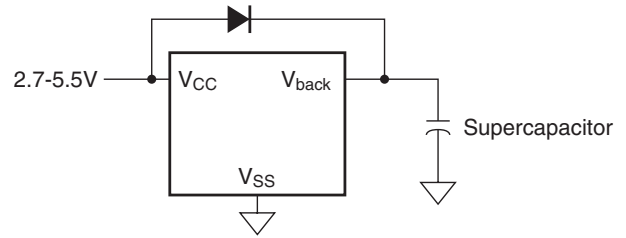

FIGURE 28. SUPERCAPACITOR CHARGING CIRCUIT
- Mode C - In this mode the selection bits indicate a low  $V_{DD}$  switchover combined with no communications in battery backup. Operation is actually identical to Mode A with I2C communications down to  $V_{DD} = V_{RESET}$ , then no communications (see Figure 28).